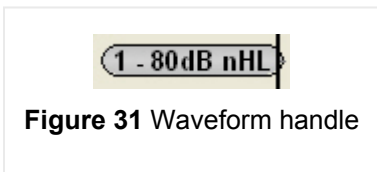

Figure 31 Waveform handle
- The corresponding wave number (in this case waveform 9), will be the same as the wave number displayed on the waveform handle (Figure 31 shows waveform 1 as an example). The information for this waveform is displayed in the **Test Conditions** column of the **Waveform Information** chart.